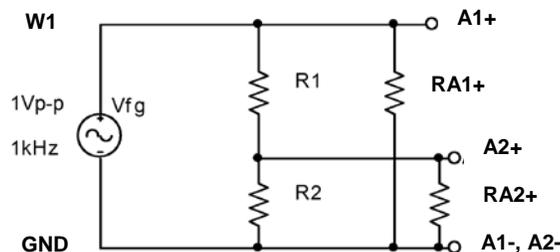

Figure B-7.
- The more exact model of this measurement is given in Figure B-7, where $RA1+$ and $RA2+$ represent the effective internal input resistances of the analog input channels of the M2K. The effective input resistance of A1+ can be ignored (Do you know why?), but the input resistance of A2+ effects the measurement. Using the measurements above, estimate the value of $RA2+$.
Figure C-4 is a picture of the *Capture* main screen with the circuit we will be drawing. Note that this is the circuit used in Figure B-7 including the input resistance of one channel of the M2K.